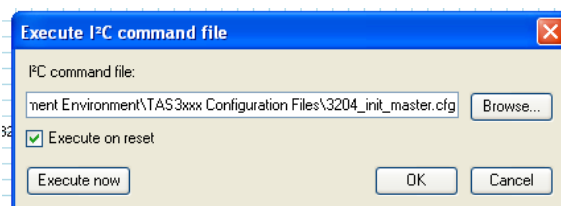

Figure 2-2. Execute I²C Command
5. From the Tools menu, select the I²C Command tool. In the Execute I²C Command File window, browse to the file 3204_init_master.cfg. Verify that 'Execute on Reset' Box is checked, then click OK (see Figure 2-2).
4. On the Tools menu, select the I²C Command tool. In the Execute I²C Command File window, browse to the file 3204_init_slave.cfg. Select the Execute on reset option and click Execute (see Figure 2-2).